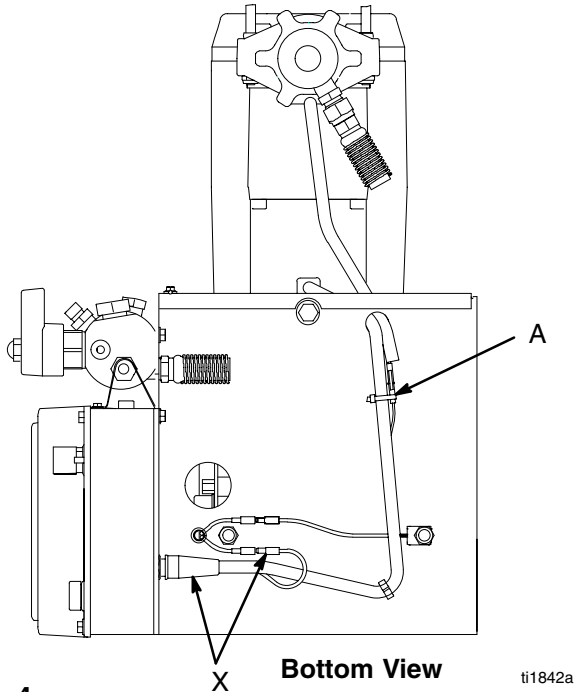
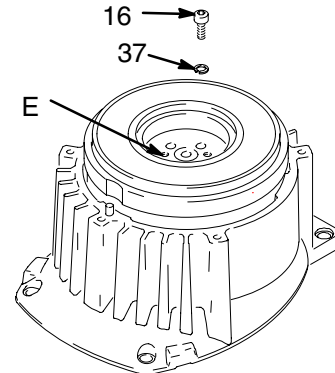

Fig. 4
Fig. 6
5. Fig. 6. Place pinion assembly (4) on bench with rotor side up.
6. Remove four screws (16) and lockwashers (37). Install two screws in threaded holes (E) in rotor. Alternately tighten screws until rotor comes off.
12. Fig. 6. Place pinion assembly on bench with rotor side up.
13. Apply Loctite to screws. Install four screws (16) and lockwashers (37). Alternately torque screws to 125 in-lb until rotor is secure.
14. Push pinion housing (4) assembly onto clutch housing (169e). Tap lightly on front of bearing housing (17) with a plastic mallet to push drive housing and pinion housing assembly onto clutch housing.
15. Install pinion assembly with five screws (47) and lockwashers (37).
16. Fig. 4. Connect field cable (X) to pressure control.